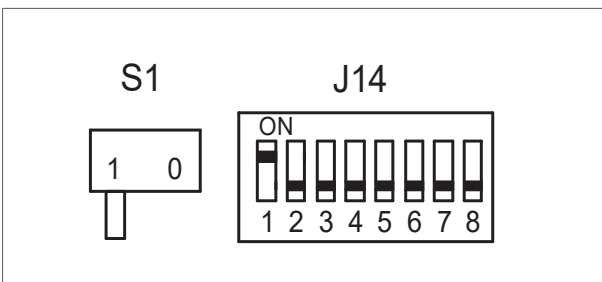

Figure 9 - Positions of the S1 and J14 switches
- a. Set the S1 and J14 switches on the control unit as follows (figure 9/10):